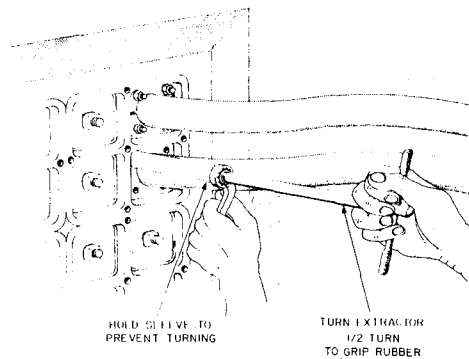

Fig. 9—Engaging Rubber with Extractor
- (5) Engage the wrench with the hexagonal end of the sleeve. By means of the wrench, hold the sleeve to prevent it from turning while rotating the extractor just one-half turn. This causes the tip of the extractor to grip the rubber between it and the tongue of the sleeve. The eccentric point on the handle end will be toward the corner of the duct when the grip is fully tightened. Figure 9 shows the extractor being tightened in the rubber prior to removal.